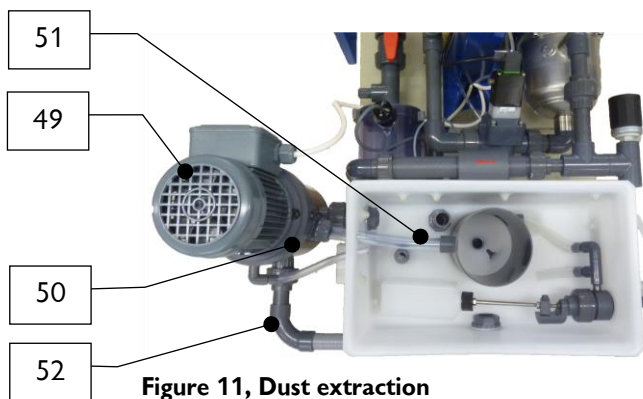

Figure 11, Dust extraction
49. Motor for dust extraction (not illustrated, see Figure 11)
50. Fan for dust extraction (not illustrated, see Figure 11)
51. Suction hose for dust extraction (not illustrated, see Figure 11)
52. Connection line for dust extraction (not illustrated, see Figure 11)